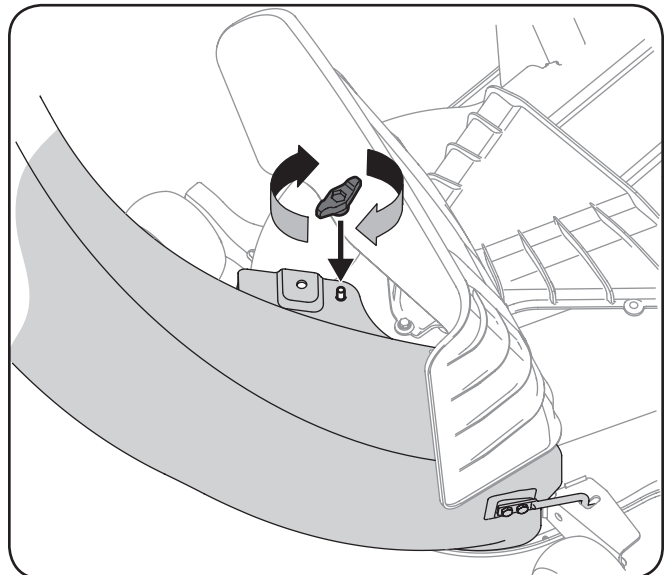

Figure 4-23
- Secure the discharge chute elbow to the cutting deck using a (720-04122) wing knob included in hardware pack 689-00341. Refer to Figure 4-23.